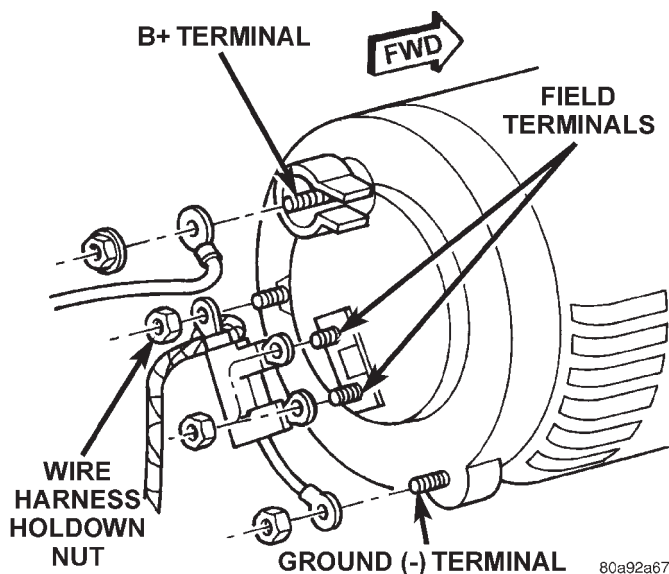

Fig. 4 Remove/Install Generator Connectors—Typical
- (1) Disconnect negative battery cable at battery.
- (2) Remove generator drive belt. Refer to Group 7, Cooling System for procedure.
- (3) Remove nuts from harness hold-down, battery terminal, ground terminal and 2 field terminals. Remove wire connectors. A typical generator wiring harness is shown in (Fig. 4). Wiring harness routing as shown may be slightly different depending on vehicle model and/or engine. Refer to Group 8W, Wiring Diagrams for additional information.